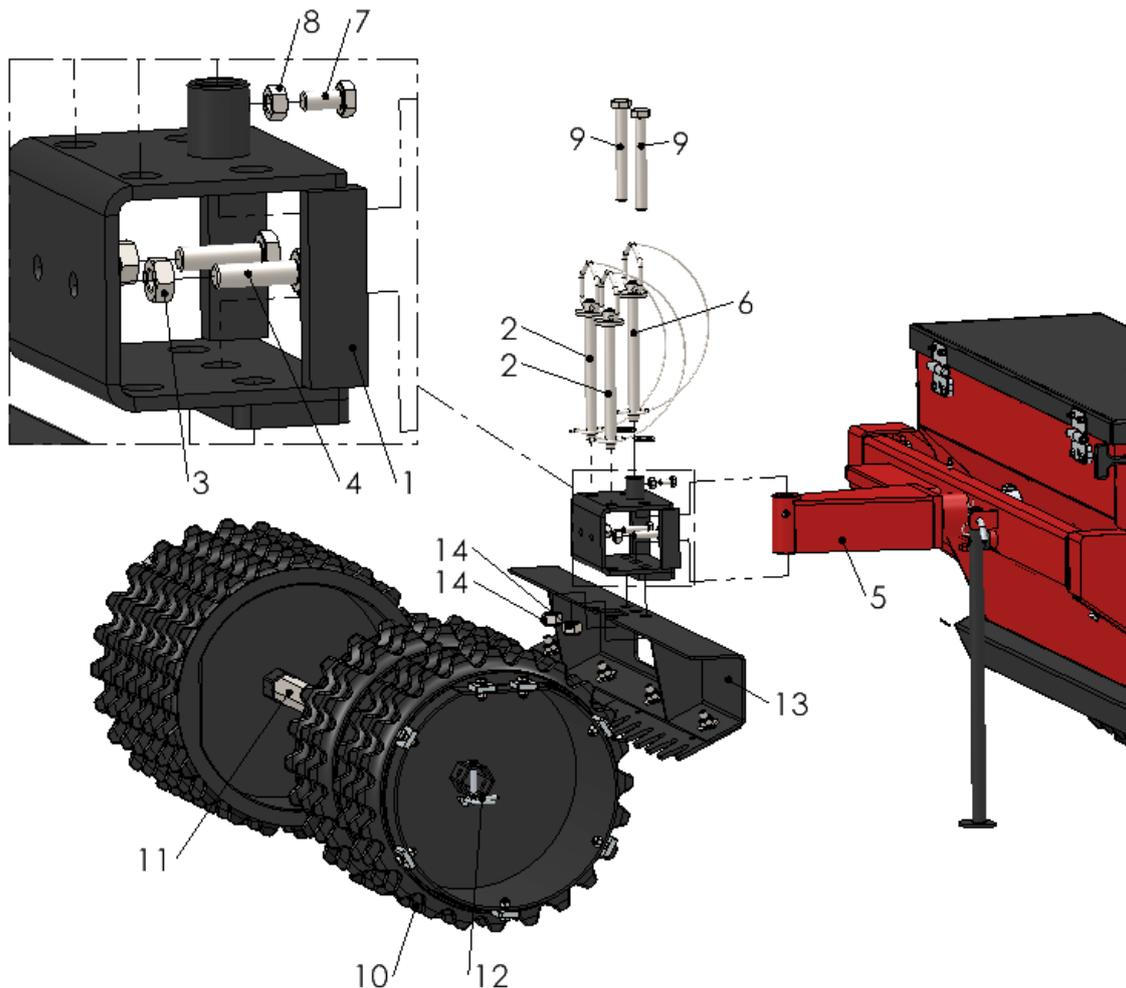

Figure 5
The Cultipack Seeder must be prepared for first use as follows (see Figure 5):
Remove the coupling pin (6) and remove the Cultipack Seeder (Figure 5).